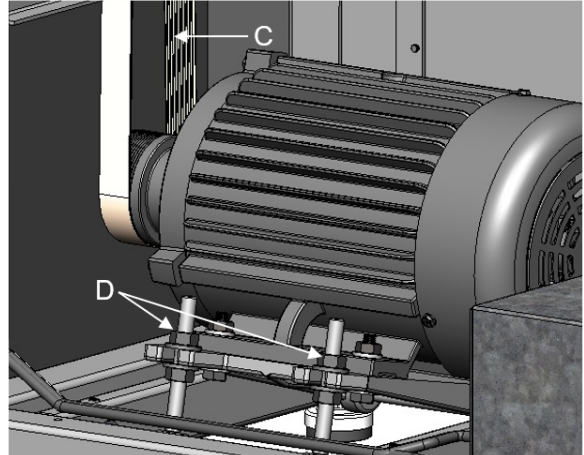

FIGURE 22: POLY-V-BELT ADJUSTMENT
Poly-V-belt (Fig. 22, D) tension has been set at the factory. If the belt has stretched and needs adjustment.
2. Open lower rear, and lower left-hand side panels. Loosen and tighten four adjustment nuts (Fig. 22, D) to move motor plate up, or down to increase, or decrease belt tension.